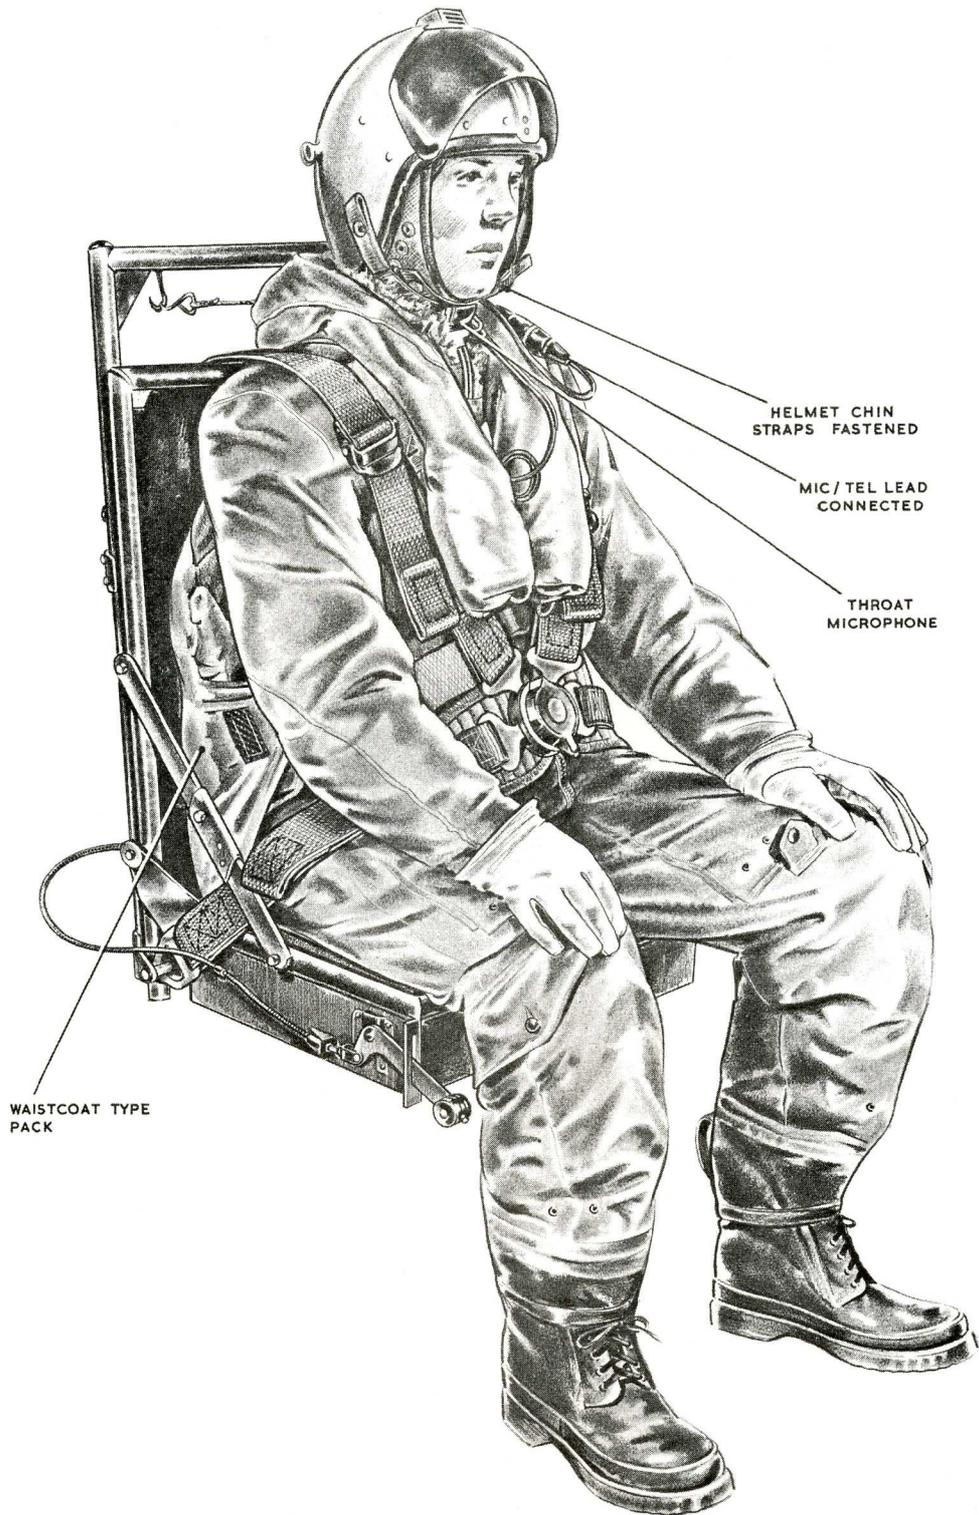

Fig. 2. The seat occupied
9. Refer to fig. 2 and proceed as follows:—